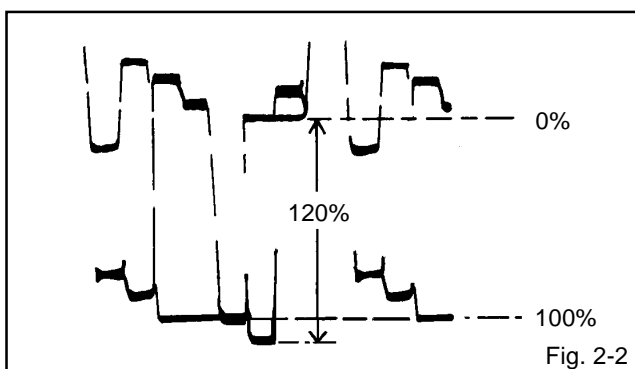

Fig. 2-2
7. Press the VOL. UP/DOWN button on the remote control until the red color level is adjusted to 120% of the white level. (Refer to Fig. 2-2)